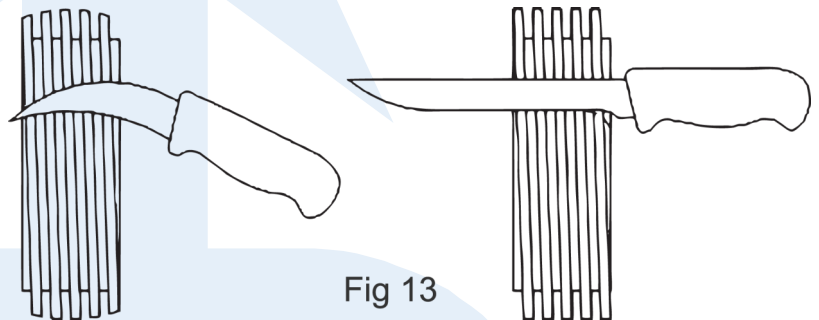

Fig 13
5. Special non-standard wheels can be manufactured to cater for blades, which may have a concave shape on the cutting edge as shown in figure 13. Contact MEFE for further details.